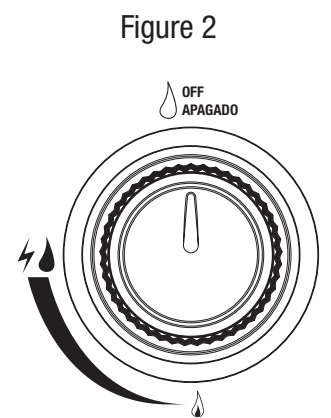

Figure 2
1. Make sure control knobs are in the "OFF" position (Figure 2).
2. Make sure control knobs are in the "OFF" position (Figure 2).
3. All control knobs must be in the "OFF" position (Figure 2).
- Turn all control knobs clockwise to the "OFF" position (Figure 2). *Note:* A "poof" sound is normal as the last of the LP gas is burned.